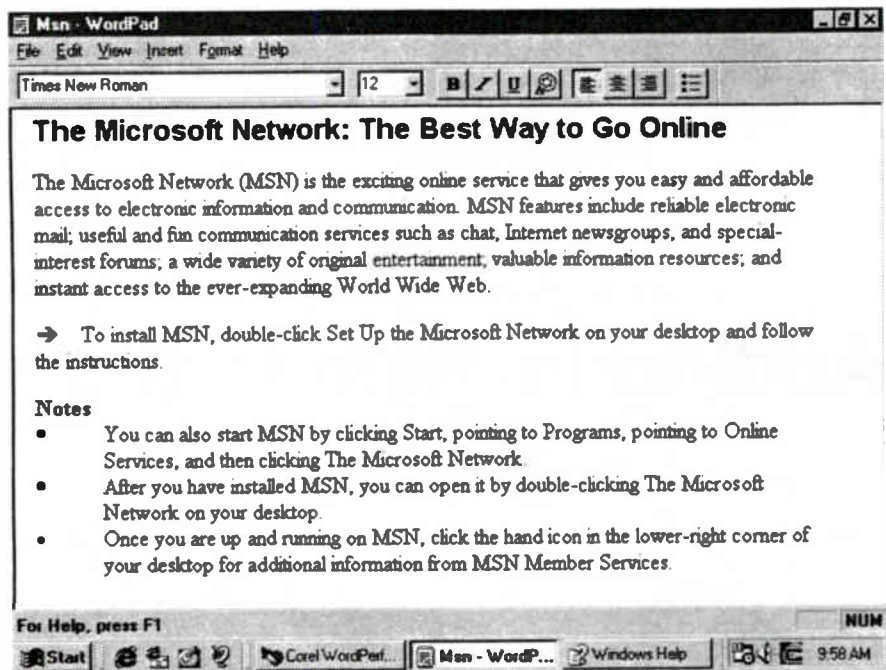

Figure 2.
- Insert a special arrow character in front of the line that begins with “To install MSN.” Look at Figure 2, on the next page, to see how this should look.
- Look at Figure 2 to make sure that your formatted document looks like the one that we did.